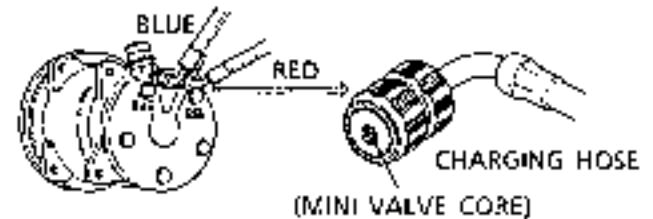

Fig. 24 Connecting piping with compressor
- Connect the end bent like "L" of the charging hose with the service valve of the compressor. If the charging hose is connected the opposite way, the mini valve of the compressor does not open. (See Fig.24.)